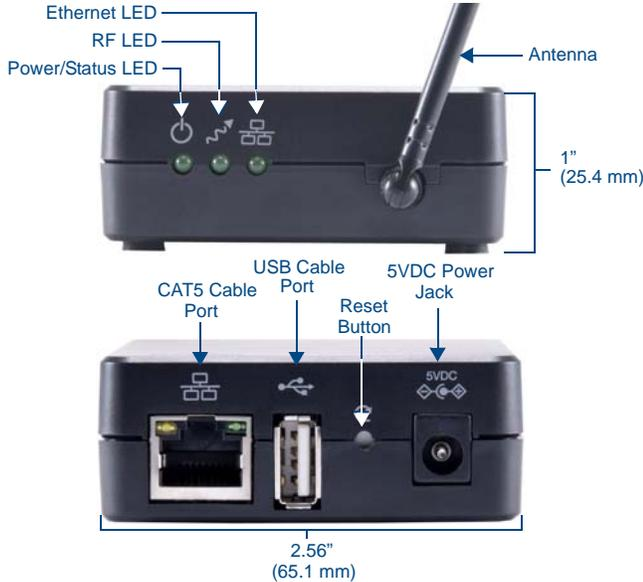

FIG. 1 NXB-CCG-K ClearConnect Wireless Gateway
- Press and hold the **Reset** button (FIG. 1) on the device for 20 seconds.